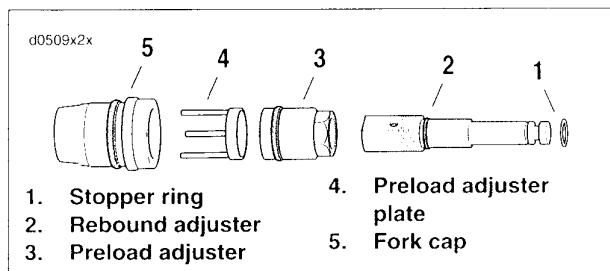

Figure 2-87. Fork Cap
1. See Figure 2-87. Remove the stopper ring (1).
2. Remove the spring preload adjuster (3).